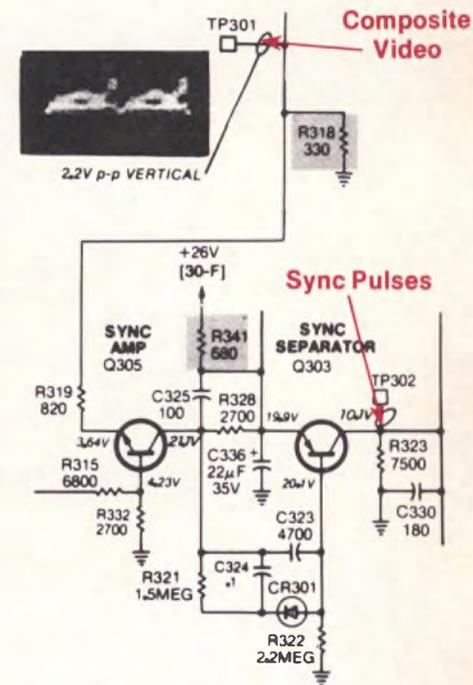

Fig. 5: The schematic can often give a clue as to which signal should be injected into a circuit.
1. If a schematic is available, check it for sample waveforms. Schematic waveforms often give the peak-to-peak amplitudes of the signals (Figure 5). Simply set the drive signal of the VA62 to the amplitude shown on the schematic and inject the signal.
The signal you need to use depends upon which system or stage you are injecting into. If you are injecting into a video stage, use a video signal. When injecting into an audio stage use an audio signal. You can usually tell which signal to use by checking the waveforms shown on the schematic. As the schematic in Figure 5 shows, the input of the sync circuit uses a video signal.